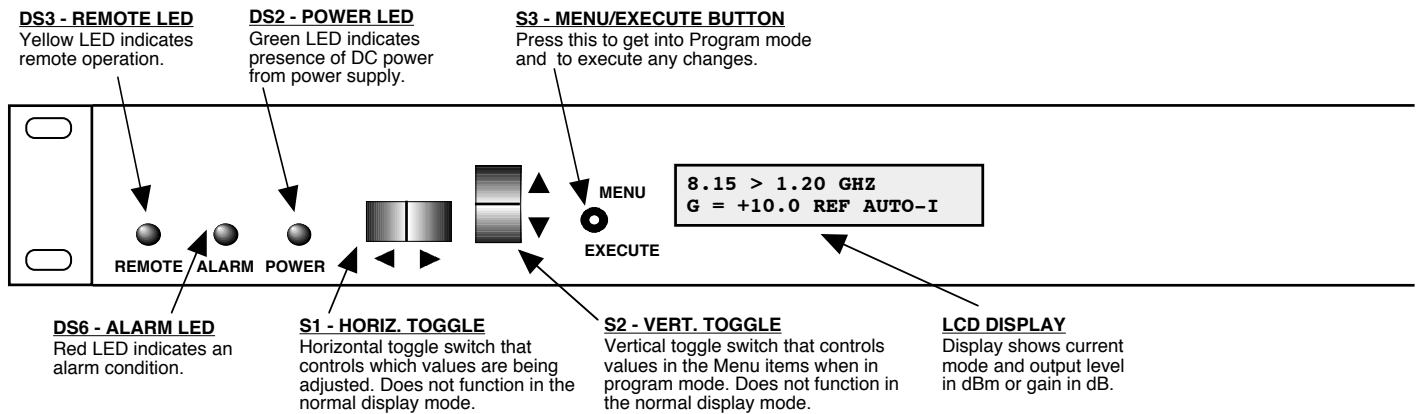

FIGURE 2.2 3116-79 Front Panel Controls and Indicators
Figure 2.2 shows the front panel controls and indicators.
5. Be sure DS2 (green, DC Power) is on and DS6 (red, Alarm) is off (Figure 2.2).
Alarm indications appear on the LEDs (see Figure 2.2).